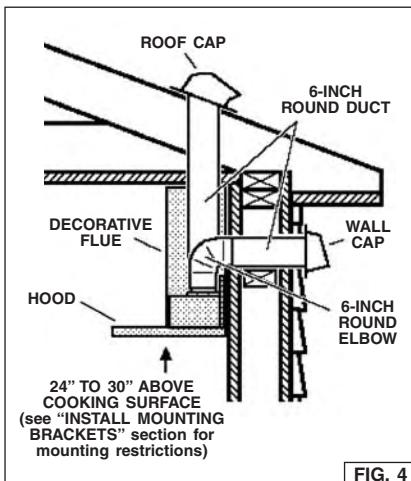

FIG. 4
1. Decide where the ductwork will run between the hood and the outside. Fig. 4.